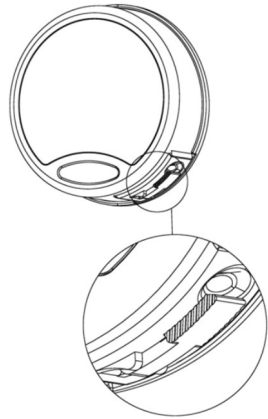

Fig. 1
- 1) Open the battery compartment latch. See Fig. 1.